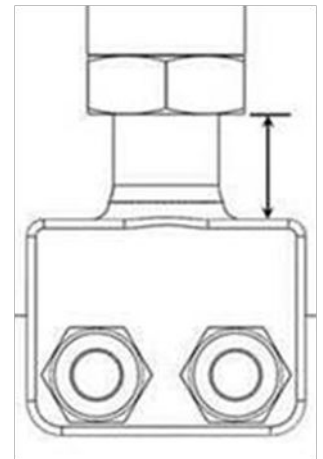

Figure 5
1. Prior to disassembly of the previously utilized clip from the gate and pneumatic actuator, measure the gap between the jam nut and the clip as shown in figure 5. This distance will be utilized when reassembling the jam nut onto the new clip.
See Figure 5 for Purge Port sizes and locations.